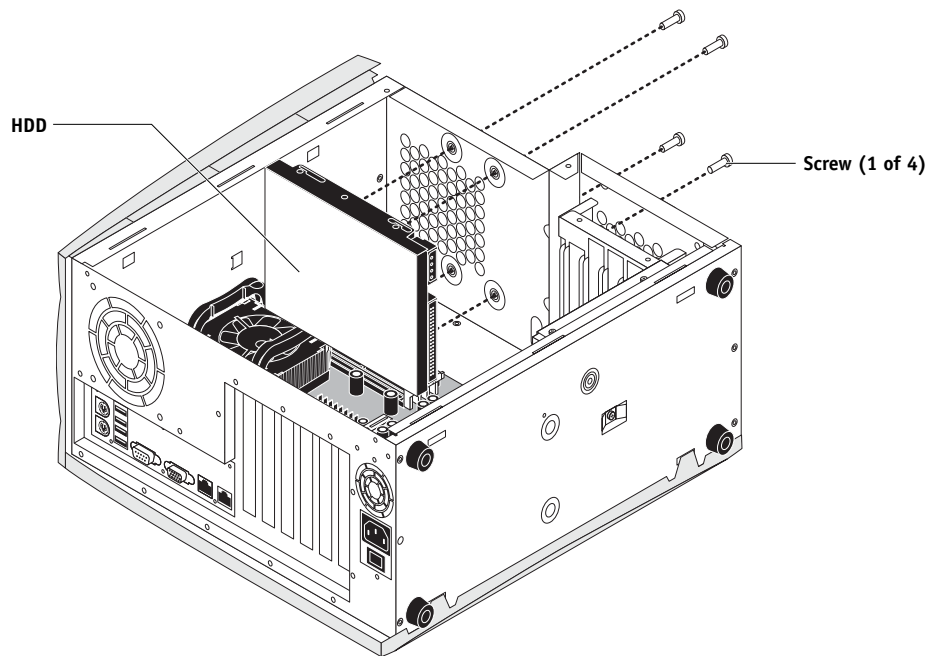

FIGURE 4-29 Removing the HDD
5. Remove three of the four screws that attach the HDD to the chassis (see Figure 4-29.)
The HDD should be positioned as shown in Figure 4-29 on page 4-51.